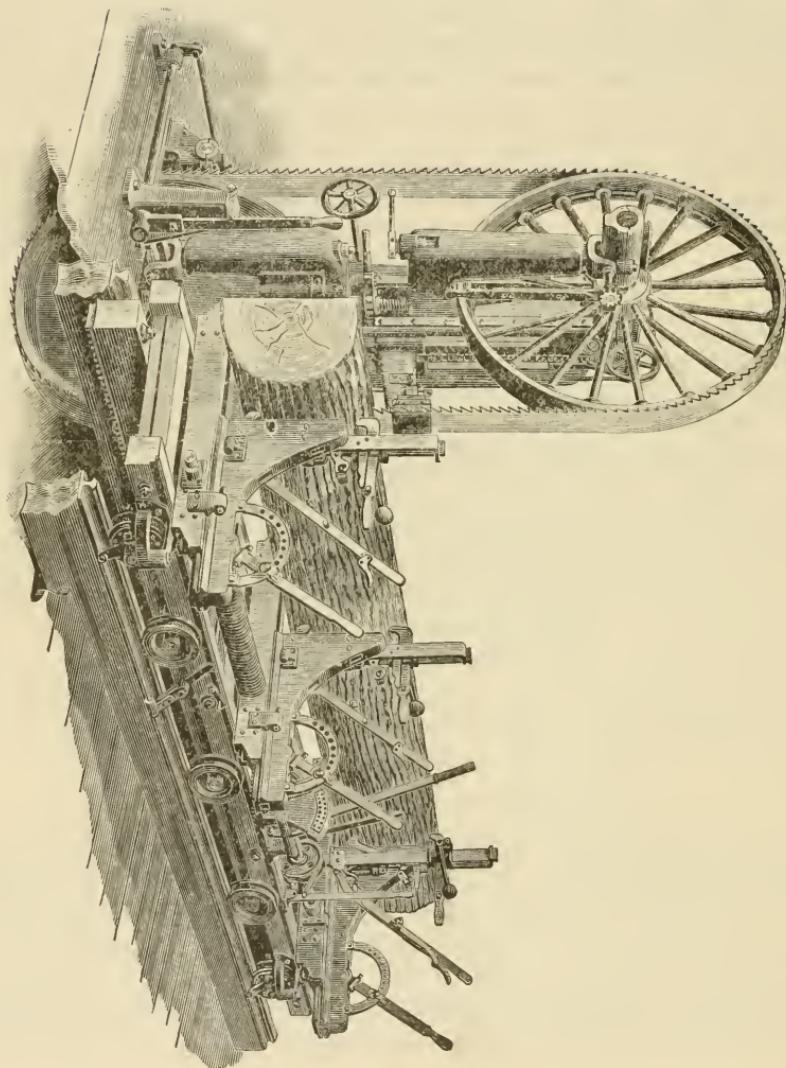

FIG. 44 A - BAND SAW MILL.
44. Large Band Saws--The band saw is used in preference to the circular saw in large mills. The circular machine is used in the small portable outfits. A right hand band saw mill is shown in Fig. 44 A.